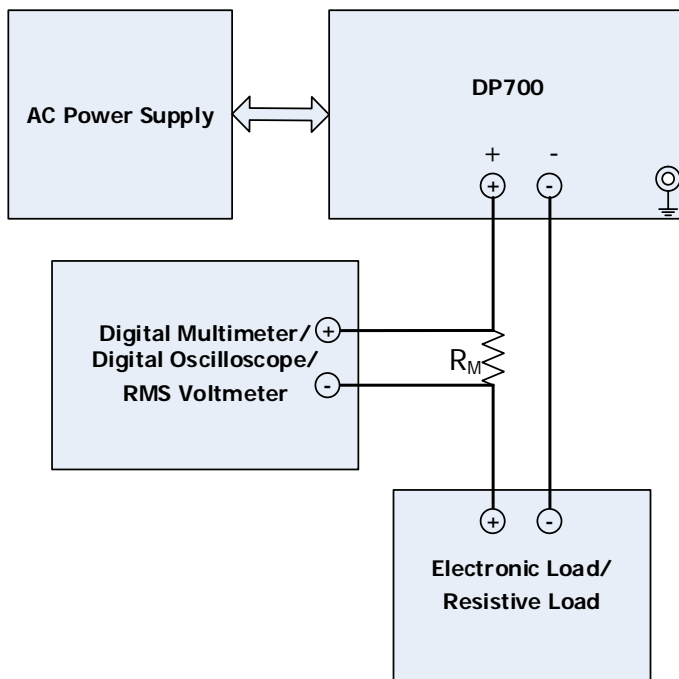
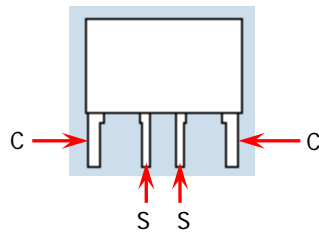

Figure 3-1 CC Test Connection
Figure 3-2 Current Sampling Resistor
Before performing the test, select the appropriate AC voltage via the "AC Selector" on the rear panel of the power supply according to the AC voltage standard of your country (220 Vac is taken as an example in all the tests in this manual). At room temperature (25°C), connect the recommended devices specified in "**Recommended Test Devices**" according to Figure 3-1 (For the CC ripple and noise test, connect the required devices according to Figure 2-1). During the test process, please set the AC voltage according to the selected voltage in "AC Selector" on the rear panel of the power supply.
Note: The R_M in Figure 3-1 is a 4-wire current sampling resistor (please select a current sampling resistor with a proper resistance according to the test item and the output channel), as shown in Figure 3-2. C indicates the current measurement
1. Power off DP711. Connect DP711, AC power supply, a current sampling resistor (the resistance R_M is 0.022Ω), an electronic load, and a digital multimeter according to Figure 3-1. Please pay attention to the connection method for the current sampling resistor, the electronic load, and the channel output terminals of DP711; as well as the connection method for the current sampling resistor and the digital multimeter.
1. Power off DP711. Connect DP711, AC power supply, a current sampling resistor (the resistance R_M is 0.022 Ω), an electronic load, and a digital multimeter according to Figure 3-1. Please pay attention to the connection method for the current sampling resistor, the electronic load, and the channel output terminals of DP711; as well as the connection method for the current sampling resistor and the digital multimeter.